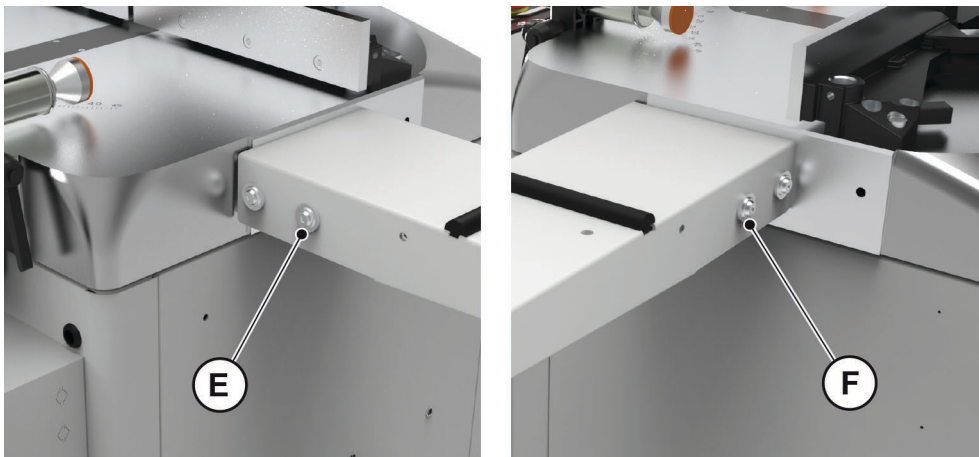

Fig. 05-04
- Carry out horizontal alignment by adjusting the front screw "E" (**Fig. 05-04**) and the rear screw "F" (**Fig. 05-04**).